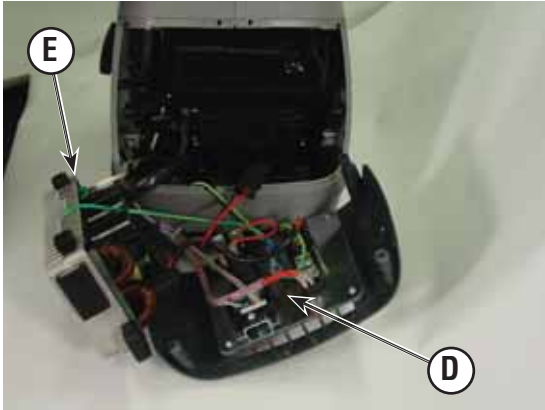

Figure 23
- Remove control panel from enclosure and, without disconnecting wiring, set control panel aside (**D**, Figure 23).